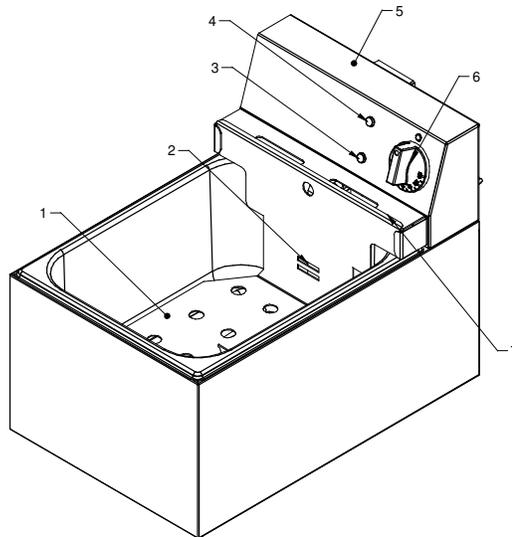

Fig 1 – Model LPB
- Fill the tank with water to a level between the markers (Fig 1) on the base plate. Do not exceed the maximum amount (See Technical Specifications). Ensure water is above the minimum marker, using boiling water when required. Note: One kilo of pasta will use approximately 1.5 litres of water.
- Place the basket with the cooked food into the slots in the basket support (Fig.1) to allow the water to drain.